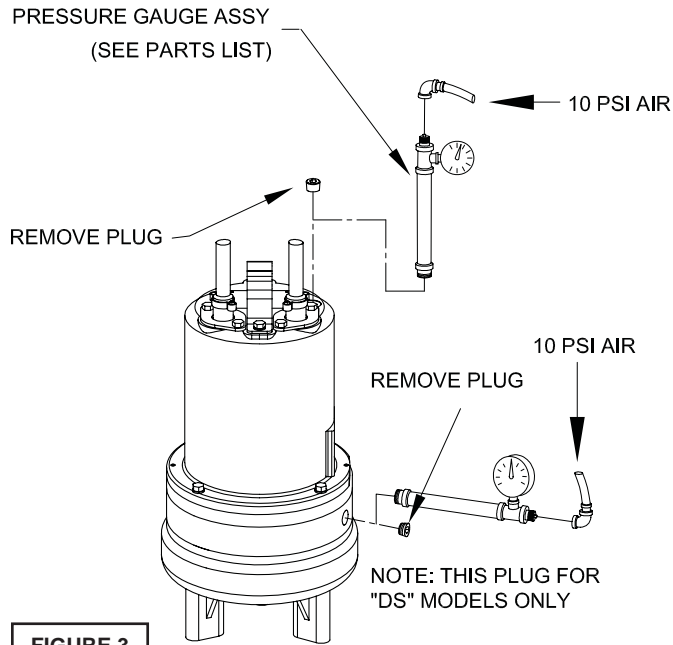

FIGURE 3
Pumps that have been disassembled, Motor Housing - If the pump has been disassembled, the oil should be drained before a pressure test, as described in section F-1.1. Remove pipe plug (39) from motor housing (6). Apply pipe sealant to pressure gauge assembly and tighten into hole (See Figure 3). Pressurize motor housing to 10 P.S.I. Use soap solution around the sealed areas and inspect joints for "air bubbles". If, after five minutes, the pressure is still holding constant, and no "bubbles" are observed, slowly bleed the pressure and remove the gauge assembly. Replace oil as described in section F-1.4. If the pressure does not hold, then the leak must be located and repaired.
Pumps that have NOT been disassembled, Motor Housing - The pressure test may be done with the oil at its normal level. Remove pipe plug (39) from motor housing (6). Apply pipe sealant to pressure gauge assembly and tighten into hole (See Figure 3). Pressurize motor housing to 10 P.S.I. Use soap solution around the sealed areas above the oil level and inspect joints for "air bubbles".